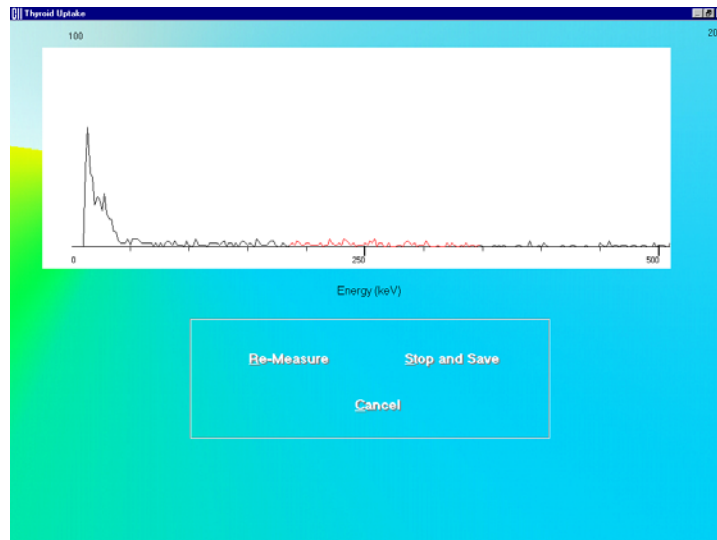

Figure 7-21
3. From this point onwards, the program begins a cycle, directing you through to measure the background counts, capsule or patient depending upon the protocol and the stage of uptake procedure. Simply follow the on-screen instructions. As the count progresses, the screen appears as shown in Figure 7-21. The live spectrum is displayed with time elapsed at the upper right corner.
To know details about the data collection screen (Figure 7-21), refer to CHAPTER 3: GENERAL OPERATING INSTRUCTIONS; SECTION: MEASUREMENT SCREEN.